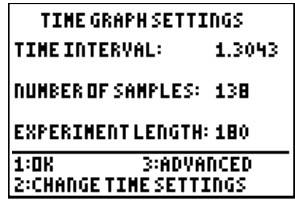
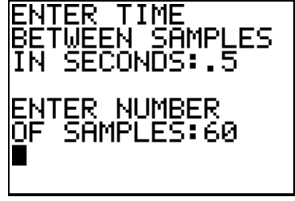

Figure 10
Figure 11
- To change the time settings, press Z again, and enter the desired settings (Figure 10). In this case, we will choose 0.5 as the time between samples and 60 as the number of samples (Figure 11). This will give an overall time of 30 seconds for the experiment.